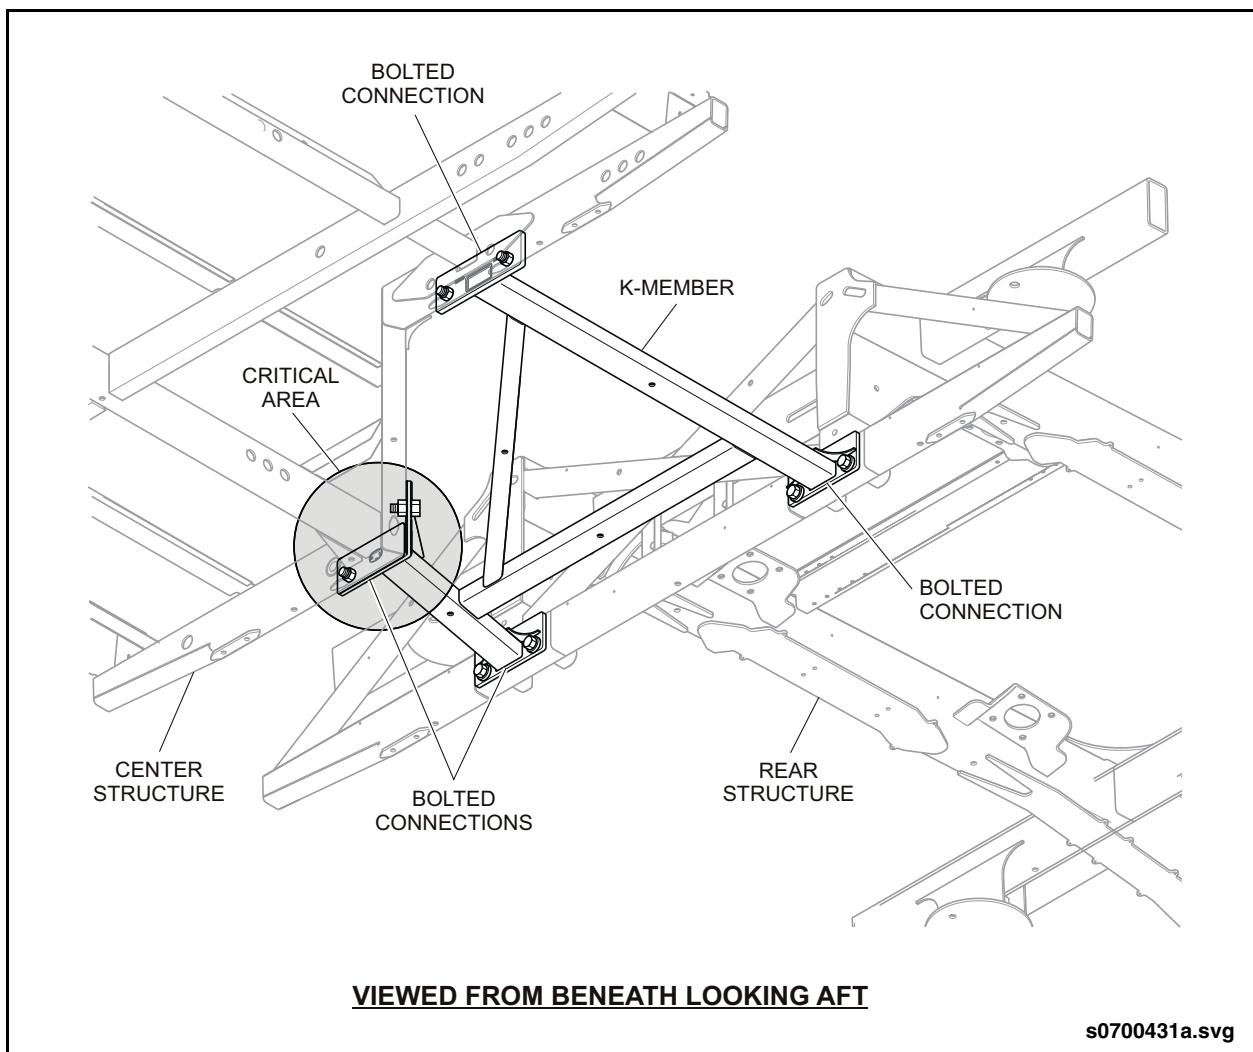

Fig. PM-40: Support Frame
2. Locate the fuel tank support frame. See "Fig. PM-40: Support Frame" on page 86.